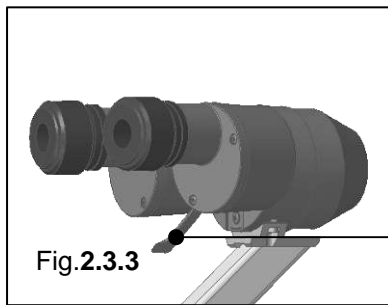

Fig.2.3.3
19. Check whether all the moveable parts such as aperture and slit height control knob (Fig.2.3.2) filter selection lever, joy stick (Fig.2.3.4) and magnification changer lever (Fig.2.3.3) etc. could be operated freely.